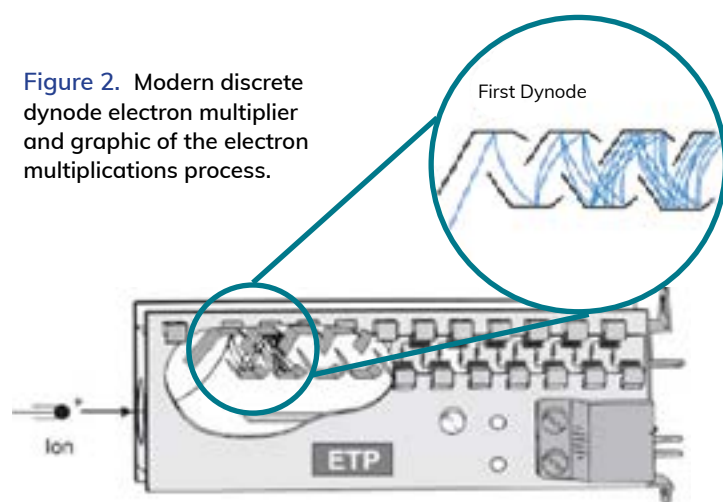

Figure 2. Modern discrete dynode electron multiplier and graphic of the electron multiplications process.
**Figure 2** shows a sketch of a modern discrete dynode electron multiplier, and a graphic that shows the electron multiplication process. The secondary electrons created in a detector can be thought of as a "cloud" of traveling electrons that corresponds with the quantity of analyte being tested. Detector operation is the same regardless of collisions / reaction cells that may be employed or cool plasma modes.